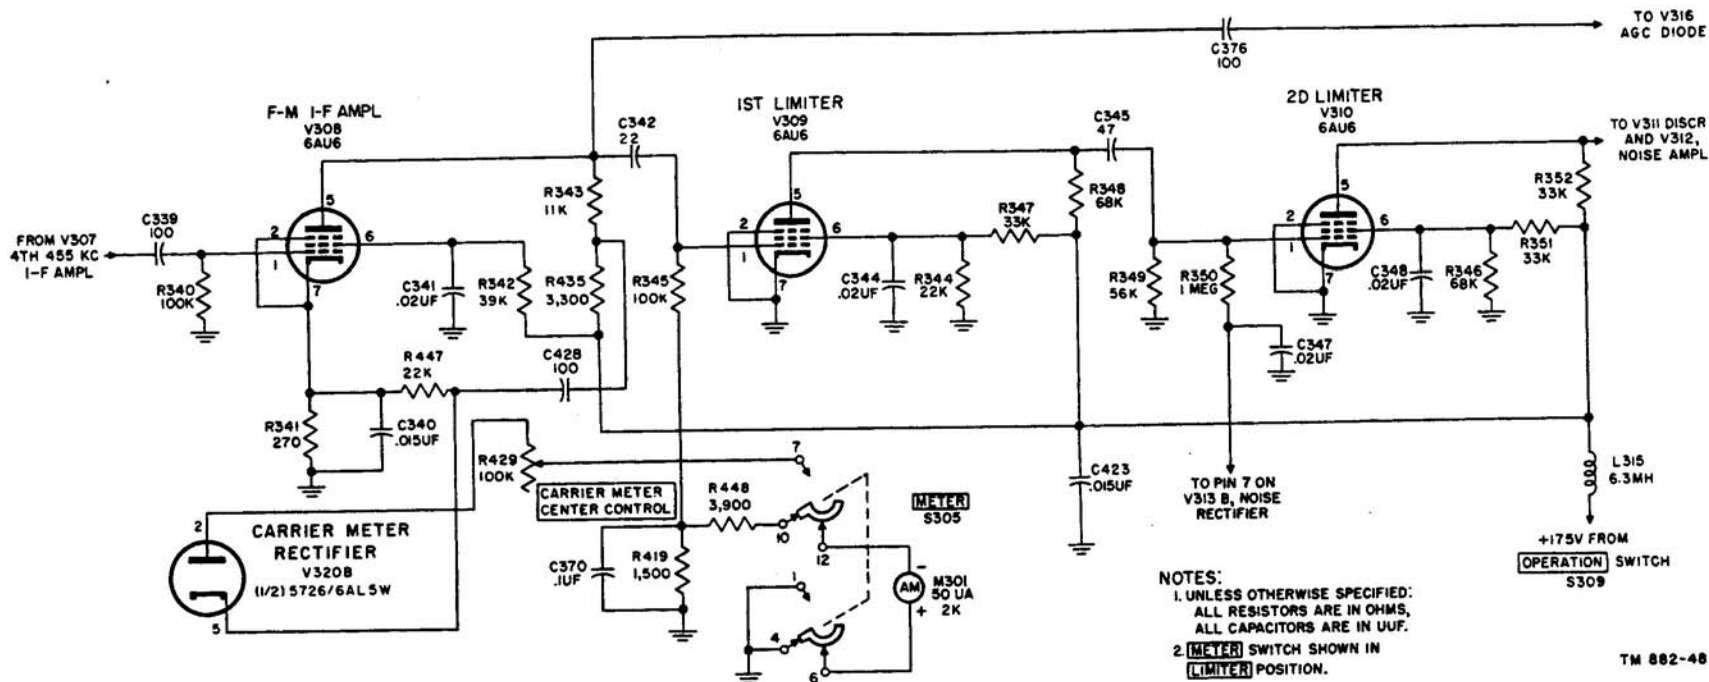

Figure 40. Fm if. amplifier and fm limiters.
(fig. 40)
*c. Second Limiter Circuit (figs. 40 and 51).* Second limiter V310 is normally in virtual saturation from noise excitation and draws increasing grid current as the signal strength increases. The grid current is thus an indication of rf signal strength and is used in a control circuit to turn the receiver output circuits on only when a predetermined signal strength is reached. When no rf carrier signal is being received, all rf noise from V310 is fed through decoupling resistor R357 and frequency selective network C357 and R359 to the grid of noise amplifier V312. The flow of grid current in V310 results in the grid end of R349 becoming negative with respect to ground. This negative voltage is applied through R350 to noise rectifier V313, and increases whenever the grid current through V310 increases due to the application of a signal through C345.